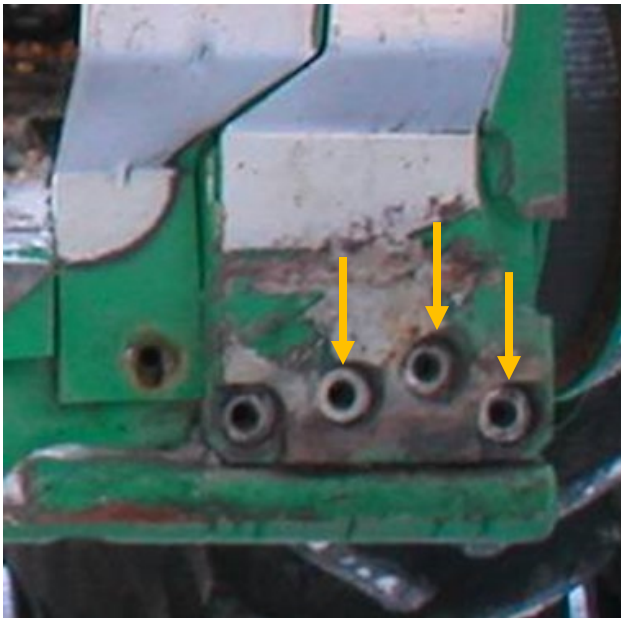

Figure 2
9. Apply thread lock to M16 x 45 bolts and replace the bolts where removed from the feeder house in Figure 2. Torque to 230 lbs or 315 Nm.